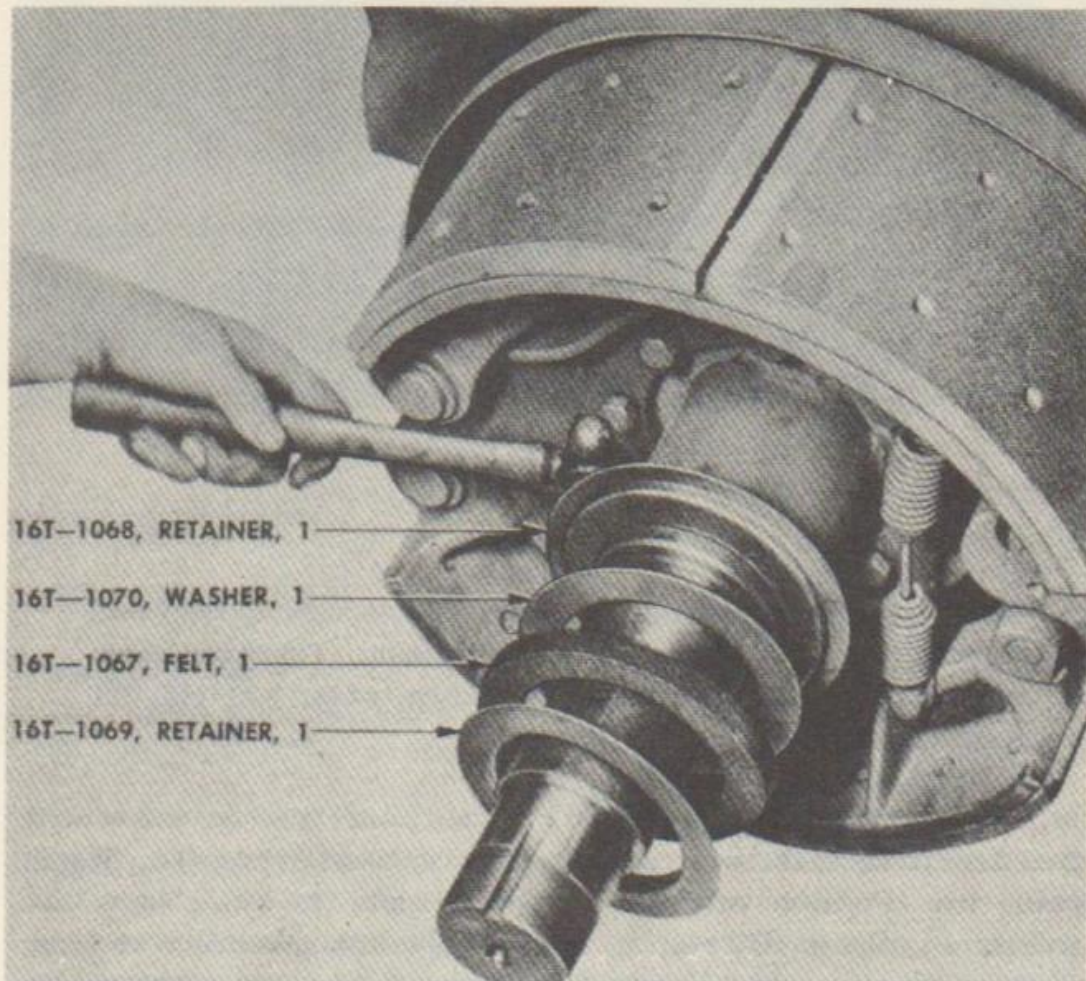

FIGURE 54. REMOVING FELT GREASE RETAINER
a. Removal (figs. 54 and 60). Remove wheel and tire assembly if felt retainers on outer wheels are to be replaced (para. 74.). If felt retainers on inner wheels are to be replaced, remove wheel and drum assembly (para. 76.). Tap the outer grease retainer, retainer washer, felt and inner retainer off trunnion axle.
b. Installation. Place outer grease retainer on trunnion axle and tap the outer retainer back until stop is reached. Place retainer washer next to outer grease retainer. Place felt and inner grease retainer in position next to the retainer washer. Make certain the parts are placed on the shoulder of axle spindle. See figure 54 for assembly sequence of retainer parts. Install wheel and tire assembly (para. 74. b.) if retainers on outer wheels have been replaced. Install wheel and drum assembly if inner wheel and drum assembly has been removed (para. 76 b.).